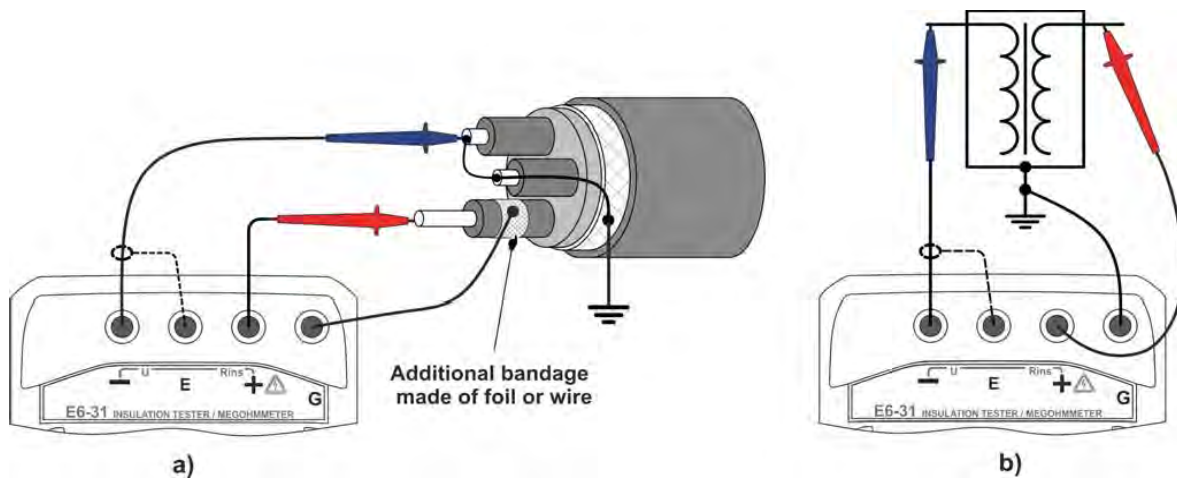

Figure 2.12 – Reduction of surface leakage currents influence
To avoid the influence of surface leakage currents (e.g. caused by contamination of the measured object surface) use connection diagrams with three measuring cables. In case of insulation resistance measurement between cable wires, the protective ring shall be used (piece of foil mounted on the insulator of one of the wires and connected to the socket "G" of megohmmeter (see Figure 2.12 a). In case of insulation test between transformer coils, connect transformer case to the socket "G", see Figure 2.12 b.
- normally, if one of the contacts of the measured resistance is grounded (Figure 2.12.a), it is recommended to connect "-" of the megohmmeter to it. However, in case of unstable readings the change of connection polarity can provide more stable readings.